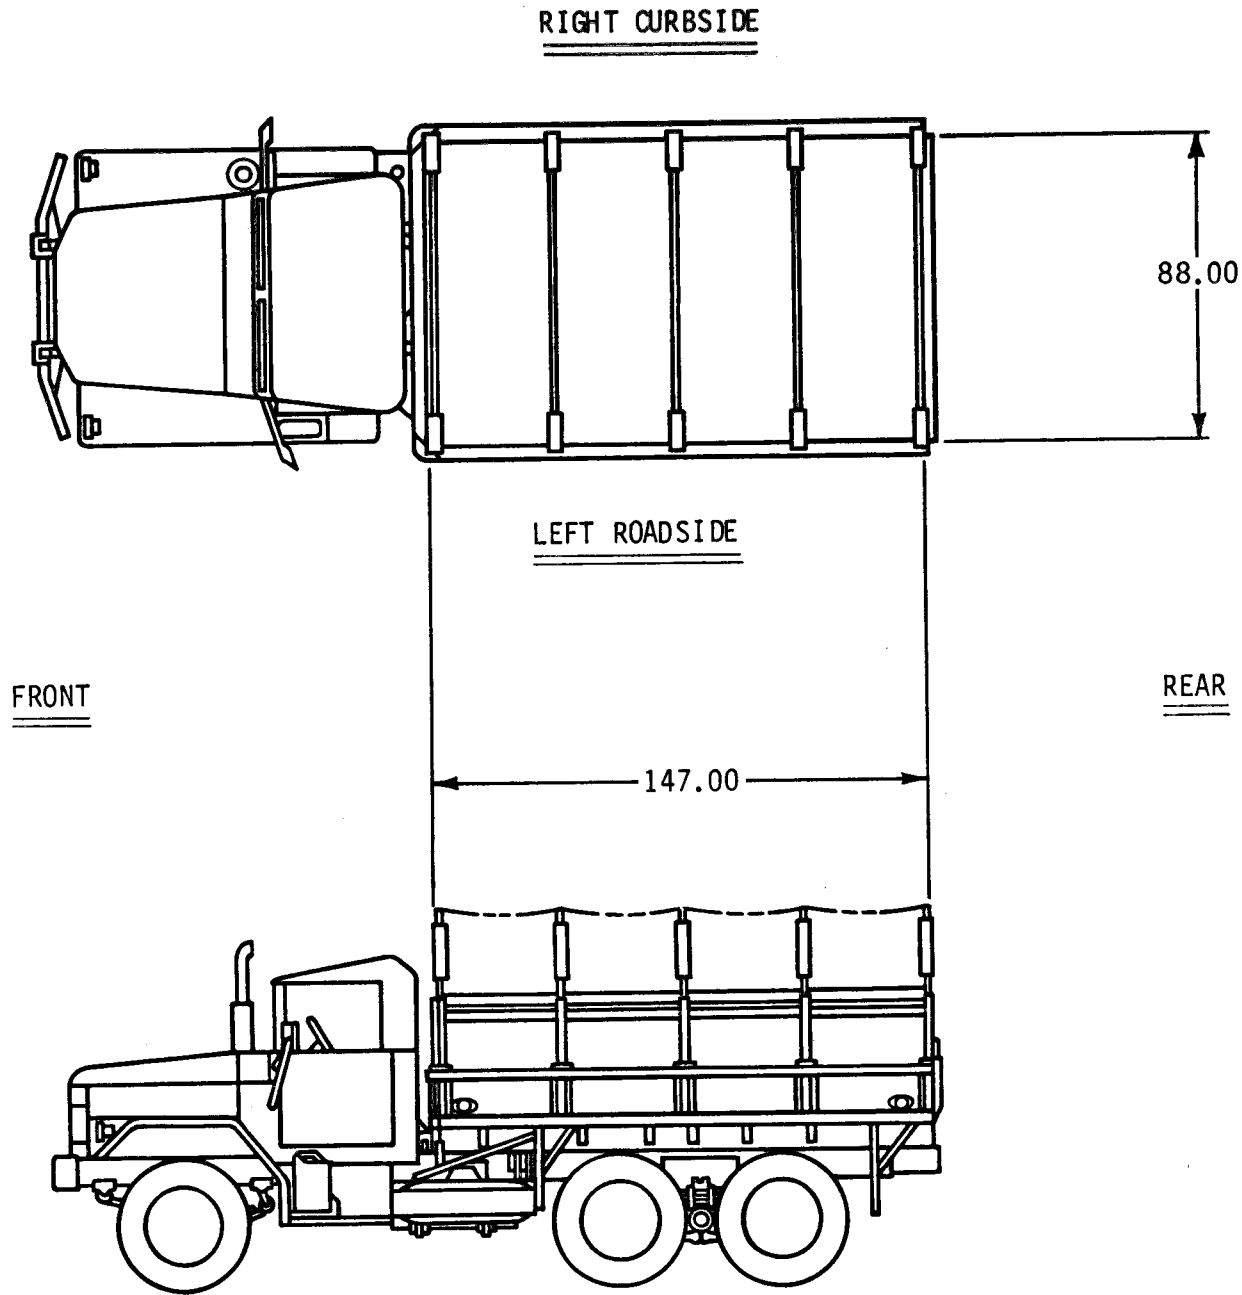

Figure 1. Cargo Truck, M35A2.
a. Instructions contained in this bulletin are to be used as a guide for installation of spare parts storage field maintenance shop set (NSN 4940-00-322-6016) in one M35A2 cargo truck, referenced in figure 1.